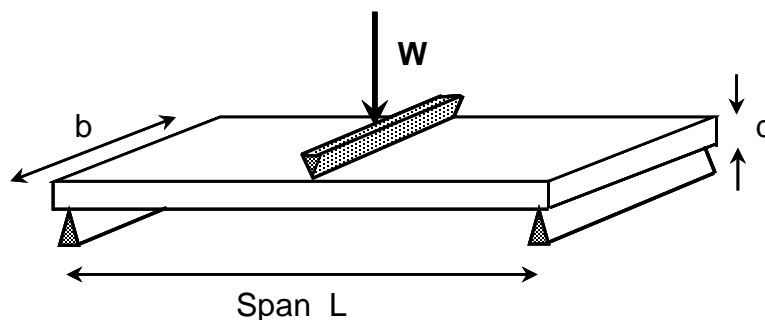

Figure 1
3. A sailing enthusiast is seeking materials for lightweight panels to use in a sea-going yacht. The panels are of rectangular cross-section and will be loaded in bending, as shown in Figure 1. The span L and width b of the panels are fixed, but the thickness d may vary (up to a maximum specified value). The required stiffness is specified as a maximum allowable deflection δ under a given central load W , for a simply supported span. The designer is interested in two scenarios: (i) minimum mass; (ii) minimum material cost. In either case, the environmental resistance to sea water must be above average.